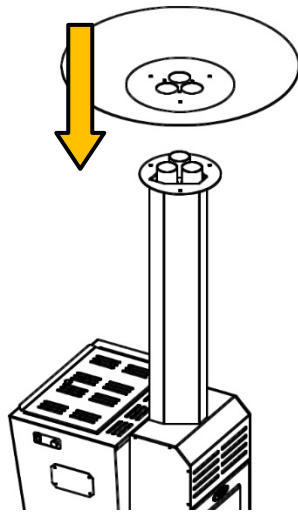

Fig. 4
- 3 Place the lower dish (*Fig.4*)